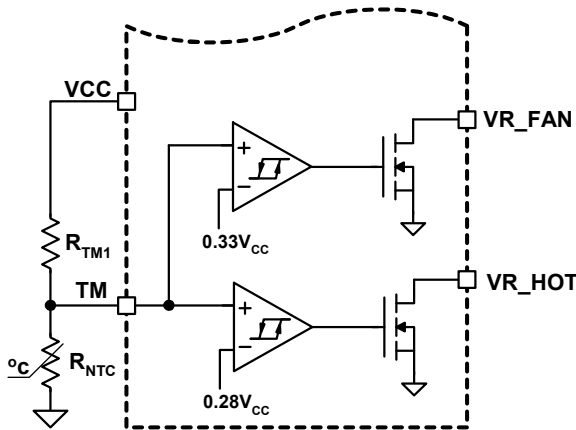
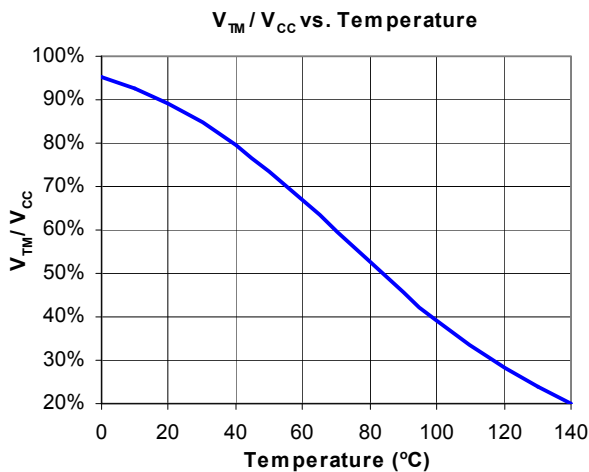

FIGURE 11. BLOCK DIAGRAM OF THERMAL MONITORING FUNCTION
FIGURE 12. THE RATIO OF TM VOLTAGE TO NTC TEMPERATURE WITH RECOMMENDED PARTS
The diagram of thermal monitoring function block is shown in Figure 11. One NTC resistor should be placed close to the power stage of the voltage regulator to sense the operational temperature, and one pull-up resistor is needed to form the voltage divider for the TM pin. As the temperature of the power stage increases, the resistance of the NTC will reduce, resulting in the reduced voltage at the TM pin. Figure 12 shows
Based on VCC voltage, ISL6326B converts the TM pin voltage to a 6-bit TM digital signal for temperature compensation. With the non-linear A/D converter of ISL6326B, the TM digital signal is linearly proportional to the NTC temperature. For accurate temperature compensation, the ratio of the TM voltage to the NTC temperature of the practical design should be similar to that in Figure 12.
1. Properly choose the voltage divider for the TM pin to match the TM voltage vs temperature curve with the recommended curve in Figure 12.